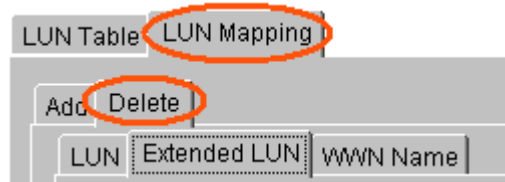

Figure 9-26: Delete Extended LUN Mapping or WWN Name
Step 2. Select the “*LUN Mapping*” tab at the top of the LUN Table. Next, as shown in *Figure 9-26*, select the *Delete* and either the **Extended LUN** tab or the **WWN Name** tab.